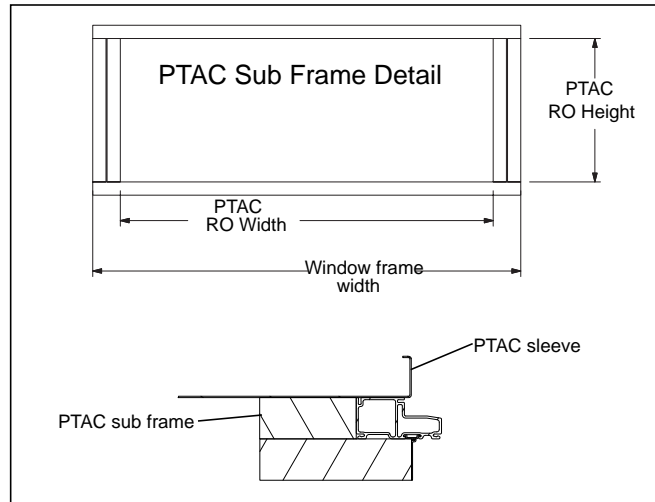

Figure 2
1. Build a PTAC sub frame. Refer to PTAC manufacturer's instructions for PTAC RO. Install the PTAC Sub Frame into the window's RO; flush against the PTAC window frame. When using structural brackets, shim 1/2" (13) at each side of the window's RO and fasten into place. Slide PTAC installation sleeve through opening and offset from the exterior edge of the frame ledge per PTAC manufacturer's instructions. Install sleeve to RO and seal as recommended by PTAC manufacturer's instructions. See figure 2.